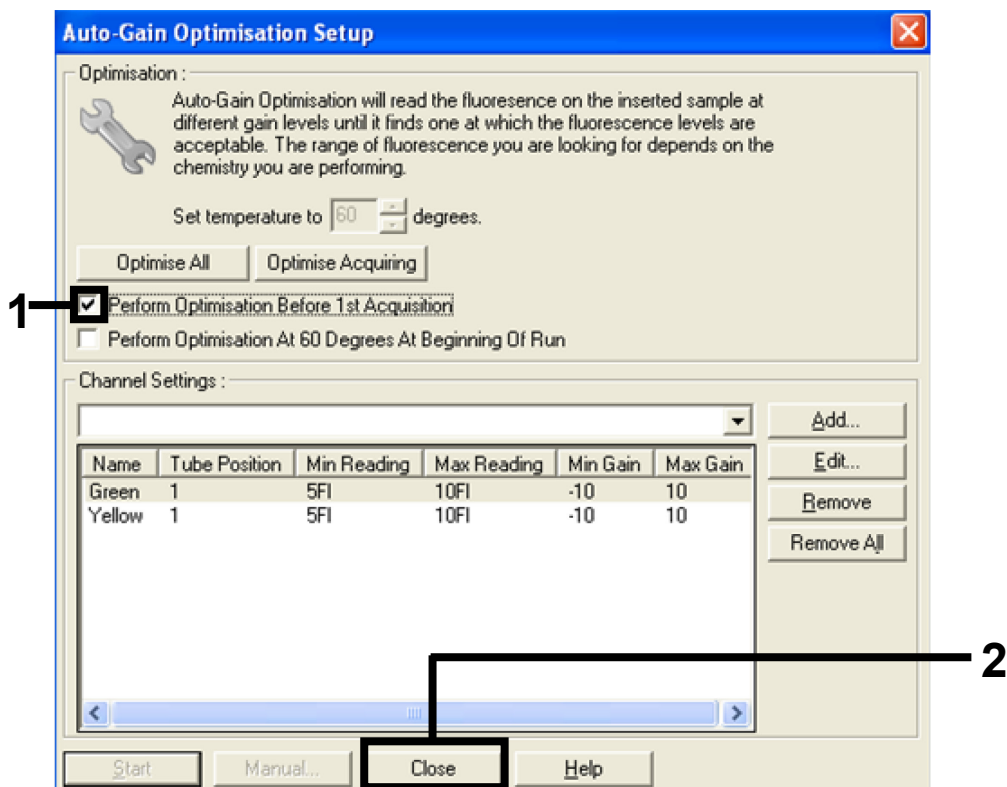

Figure 31. Selection of Green and Yellow channels (1 = "Perform Optimization Before 1st Acquisition" tick box; 2 = "Close" button).
14. Check the "Perform Optimization before 1st Acquisition" box, and then click the "Close" button to return to the wizard (Figure 31).